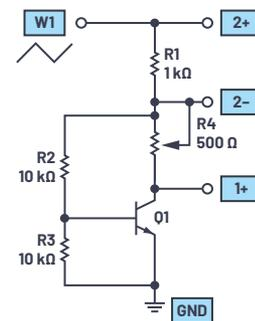

Figure 9. Version 2 of  $V_{BE}$  multiplier circuit.
- ▶ How would you modify the values of R2 and R4 in version 2 (Figure 9) to produce a stabilized 1.0 V output?